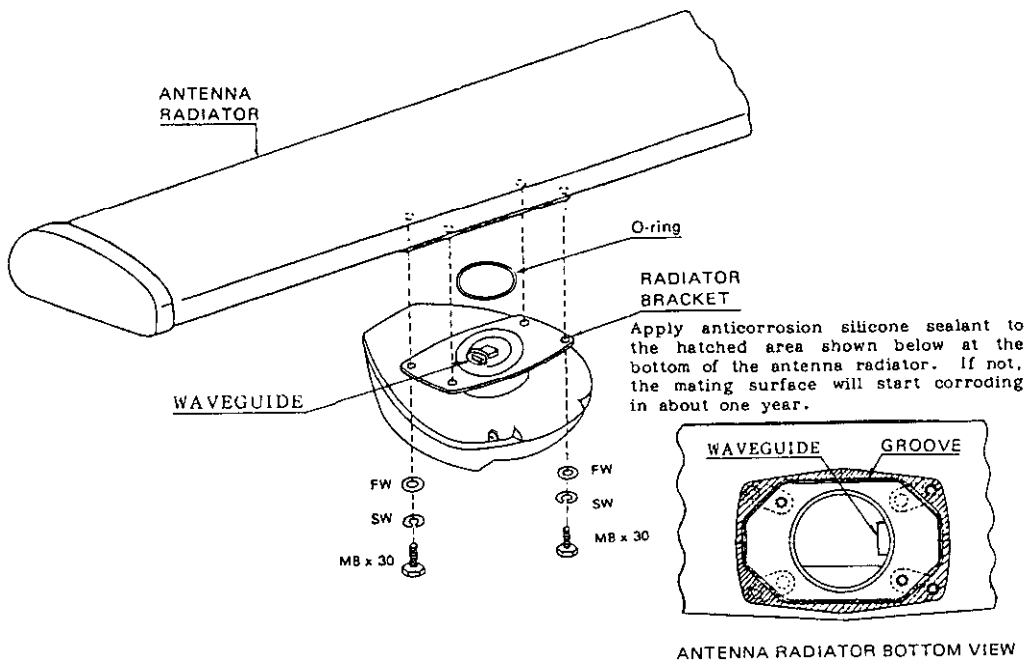

Fig.8 Antenna Radiator Mounting
3. Now is the time to begin the procedure for fixing the radiator to the radiator bracket. Remove the red rubber cap on the radiator bracket. Mount the antenna radiator on the bracket so that the waveguide of the bracket mates with the waveguide of the antenna radiator as shown in Fig.8. Apply grease to the O-ring and set the O-ring to the center of the radiator bracket. Coat the radiator fixing bolts with silicone sealant.